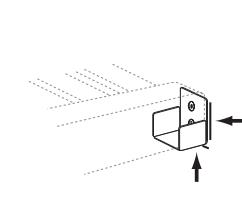

**FIG. 1.4**
7. Place **TOP (A)** shelf onto L-Hooks and position Shelf End Bracket onto front shelf end at closet side wall location (Fig. 1.4)